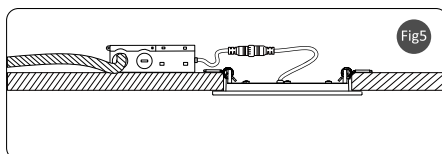

Fig5
**5.** Turn on the power after installation, check the fixture can work well, see Fig5.